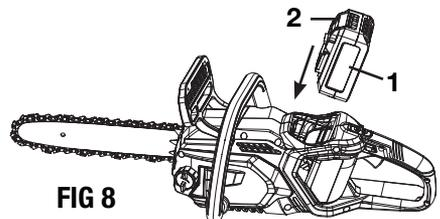

FIG 8
### INSTALLING OR REMOVING THE BATTERY PACK (FIG 8)
- To install the battery pack, slide the battery pack (1) into the battery port on the top of the tool housing all the way until it locks in place with a click, as shown in FIG 8. Lightly pull on the battery to ensure it is locked into place and will not accidentally fall out of the tool, causing an injury.
- To remove the battery pack, pull the battery pack away from the tool while depressing the battery locking tab (2).